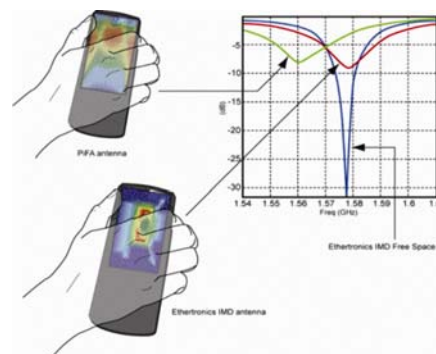

Figure 2
4. The distance from the antenna to relatively large perturbations, such as a nearby shield or large components, is referred to as **“Antenna – Shield” distance**. This distance is dependent on the height of surrounding components, but should not be less than 1.5mm. See Figure 2.